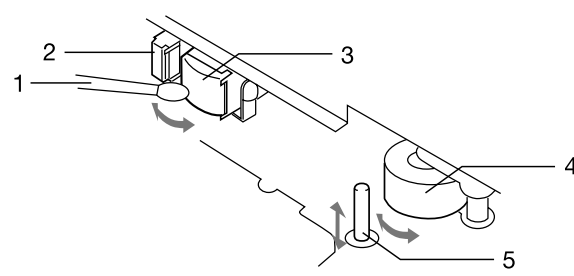

Fig. 9
To ensure continued high performance, use cotton swab (1) moistened with head cleaner to clean the heads (2, 3), pinch roller (4) and capstan (5) after about every 10 hours of use (Fig. 9).